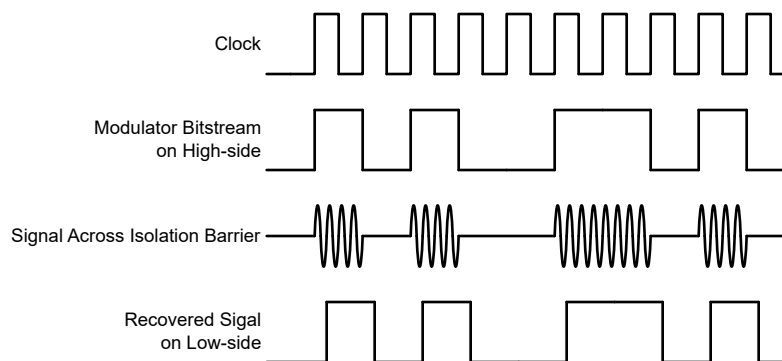

Figure 6-3. OOK-Based Modulation Scheme
The AMC3306M05-Q1 uses an on-off keying (OOK) modulation scheme, as shown in Figure 6-3, to transmit the modulator output bitstream across the SiO₂-based isolation barrier. The transmit driver (TX) shown in the *Functional Block Diagram* transmits an internally generated, high-frequency carrier across the isolation barrier to represent a digital *one*. However, TX does not send a signal to represent a digital *zero*. The nominal frequency of the carrier used inside the AMC3306M05-Q1 is 480MHz.